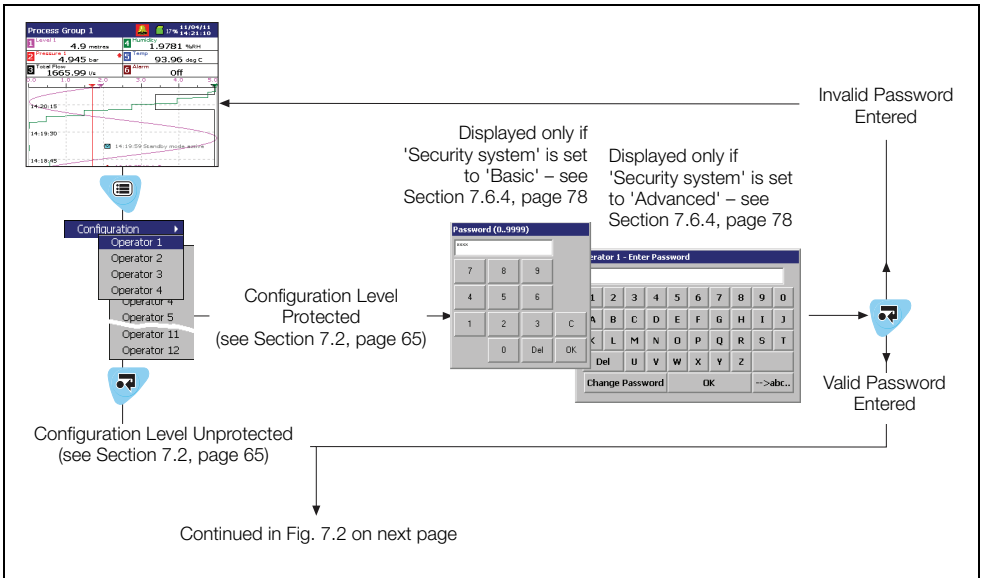

Fig. 7.1 Accessing the Configuration Level
The Configuration level cannot be accessed until the correct password has been entered – see Figs. 7.1 and 7.2, pages 66 and 67 respectively.
1. Access the Configuration Level – see Figs. 7.1 and 7.2, pages 66 and 67 respectively.
2. Access the Configuration Level – see Figs. 7.1 and 7.2, pages 66 and 67 respectively.